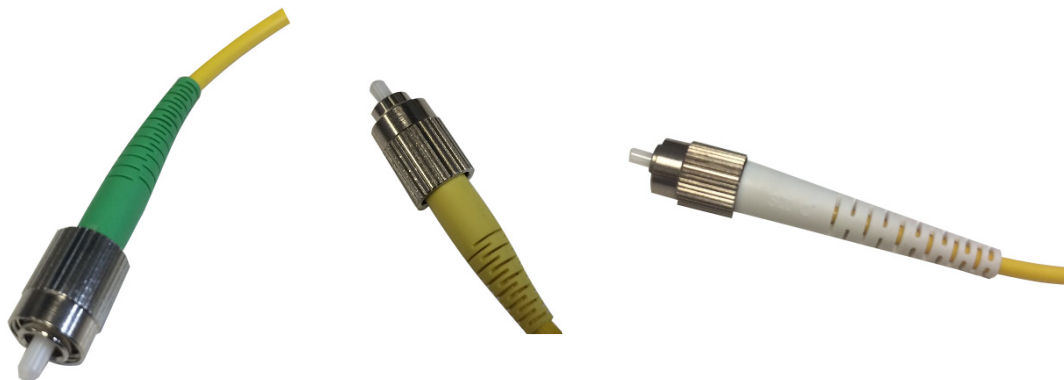

Figure 2. Common Color-coding of Patch Cord Ends (green often for FC/APC (angled) and yellow or white often for FC/PC (non-angled))
An optical patch cord is used to connect the E/O converter to the O/E module. The MN4765B is connectorized for FC/APC fiber (and those patch cord connections are often denoted by a green boot). The MN4775A (and many other modulators) is connectorized for FC/PC fiber (and those connections are often denoted by a white boot). The accessory kit includes a FC/PC-FC/APC adapting patch cord for this purpose... it is important to orient the cable appropriately (while some surface scratching or other damage of the fiber ends is unlikely, high insertion loss will be the outcome for reversing the patch cord). Example pictures of these different boots are shown in Figure 2. If another patch cord is used, check with the vendor for color coding information.
The cable on the left (green boot) of Figure 2 is typically of an FC/APC connector which should be used with the MN4765B O/E module. The two other cables (yellow and white boots) are typical of FC/PC connectors; these ends should be used with the MN4775A E/O converter. Other lasers and modulators/converters may be connectorized differently.
Figure 2. Example Plot of $|S_{21}|$ for the System Check on a ME7848A-0270 System at +5 and +2 dBm Optical Power Levels. The absolute values and approximate shape are of interest.
In Figure 2, the blue curve is at 5 dBm optical power out of the modulator which is the test condition mentioned above. The red curve is at +2 dBm optical power for information. ME7848A-0271 systems will have a similar curve shape but shifted lower in values than the red curve (due to lower O/E responsivity). ME7848A-0240 systems will roll-off faster and have a shift down in values relative to the red curve (due to lower O/E responsivity).
- The VNA calibration establishes reference planes (for insertion loss and phase, group delay, and reflection) at the ends of the RF cables (or wherever the calibration was performed). Thus a measurement of, for example insertion loss, the structure in Figure 2 will represent the combined conversion loss of the E/O and O/E modules and the optical interconnect.
In this case, the E/O device must be de-embedded. Sometimes, the .s2p file of that device is available but, if not, a two-step process is used. The MN4765B is connected to the E/O device (the MN4775A usually) and the VNA tools are used to generate the .s2p file for the MN4775A by de-embedding the MN4765B. Now the DUT is connected in place of the MN4765B and the MN4775A response is de-embedded instead. The calibration coefficients are modified upon dialog exit and the resulting measurement response is that of the O/E device of interest. If O/E match is of interest, a simple S22 measurement (assuming the configuration of Figure 2) will suffice.